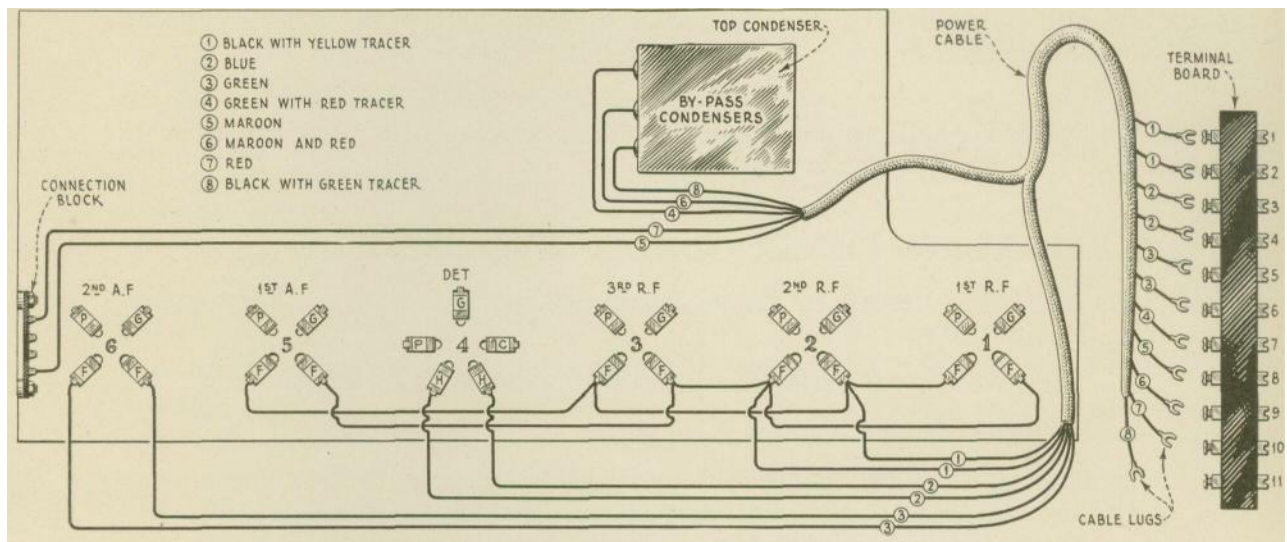

Figure 25—Color scheme of power cable connections,
3. Remove old cable from chassis and replace with new cable. Solder the connections of the new cable as indicated on tag's attached to connection points. The correct connections for the power cable are shown in Figure 25.
(11) REPLACING FILTER CONDENSER ASSEMBLY